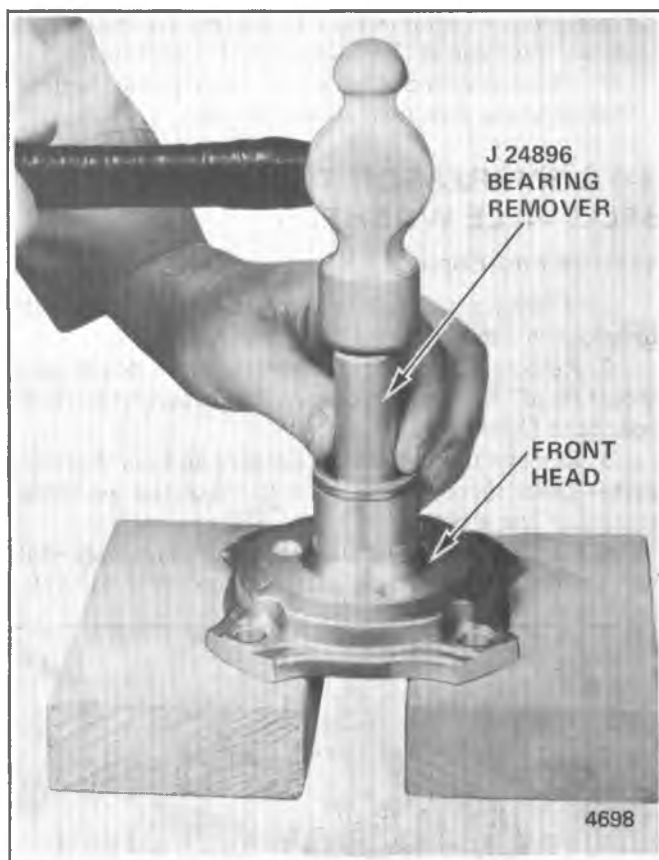

Fig. 1D-98 Removing R-4 Main Bearing
3. Place the Front Head assembly on two blocks, as shown in Fig. 1D-98, and use Main Bearing Remover J 24896 to drive the Main Bearing out of the Front Head.